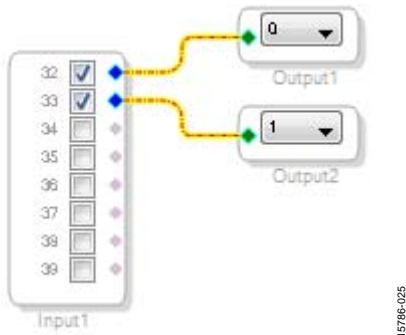

Figure 25. Connected Signal Flow with Stereo Input and Stereo Output
- To connect each input channel to its corresponding output channel, click and drag a line, representing a wire, between the blue pin of the input channel and the green pin of the output channel (see Figure 25). Input Channel 0 connects to Output Channel 0, and Input Channel 1 connects to Output Channel 1.